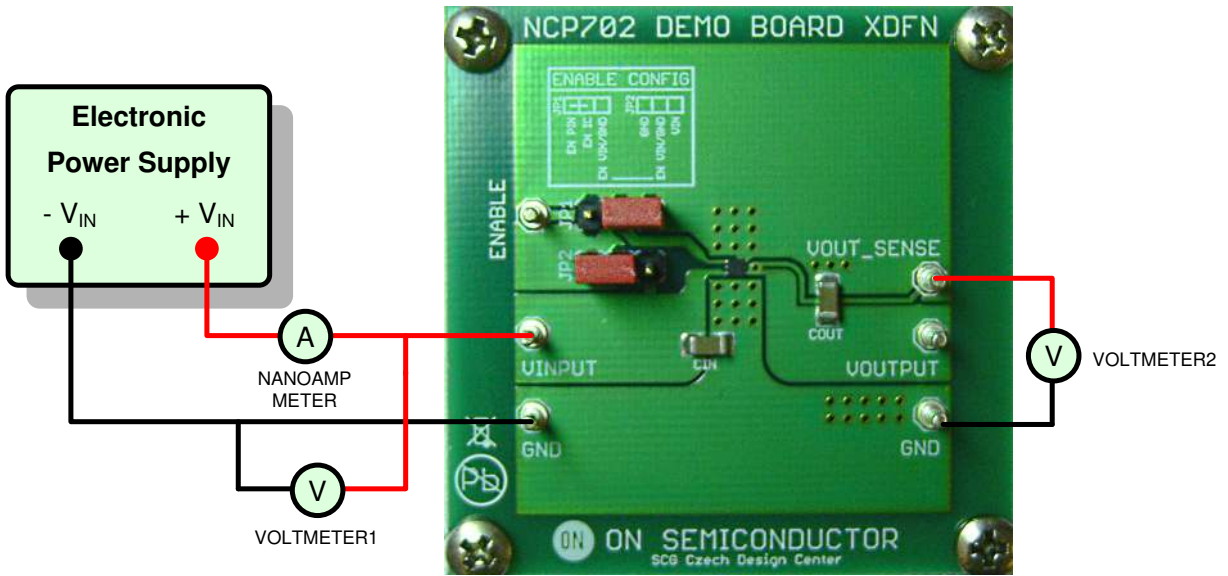

Figure 3. Test setup for the measurements of the disable current
1. Connect the test setup as shown on Figure 3,